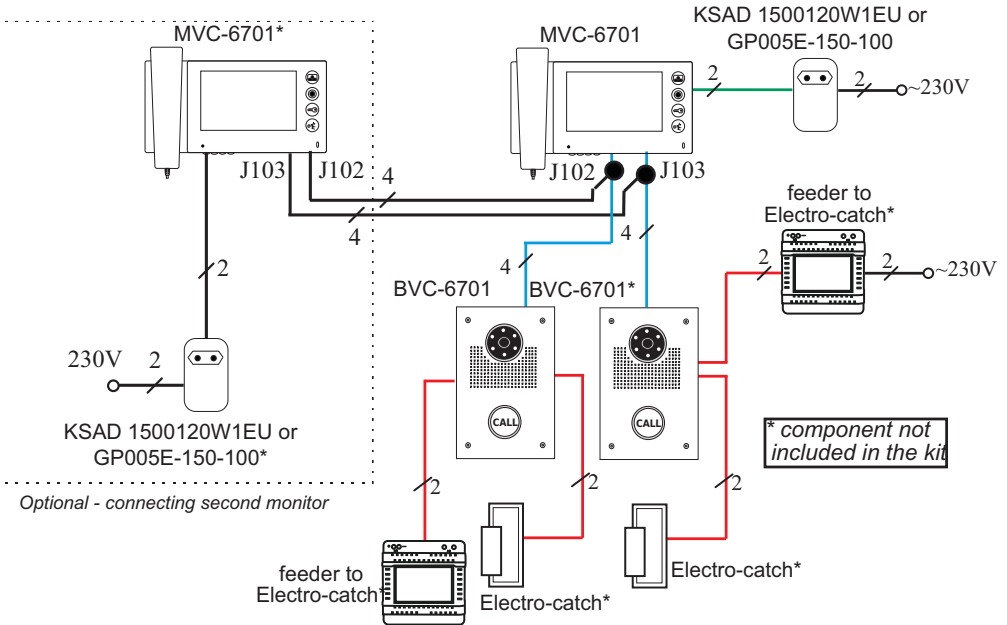

Figure 4. Connection of Aries II video door phone - single line diagram.
To put down in the ground and outside the room it is necessary to use the damp-proof cables. The number of wires in the cables is shown on the single line diagram (fig. 4).
*When you connect an additional panel to Monitor use the free slot J103(rear monitor) and proceed similarly to Figure 4 and 6*